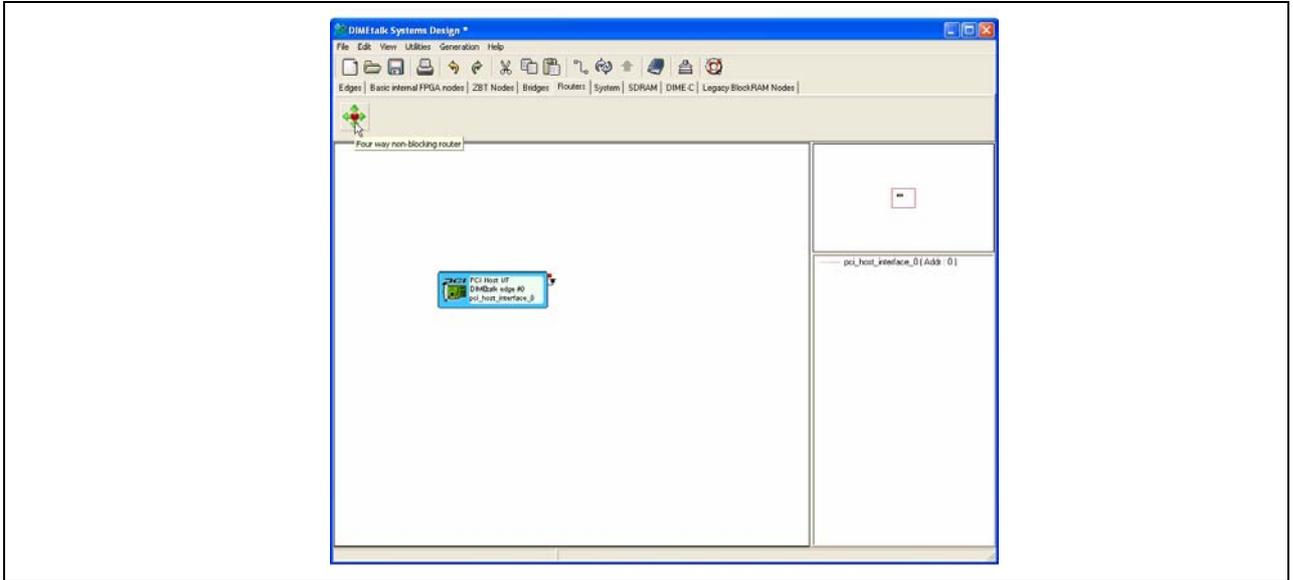

Figure 7: Router Component
- At the heart of DIMETalk networks are the routers which allow packets to move between various components in the network. Go to the 'Routers' tab to select the Router component and place it down in the network as shown in Figure 7.